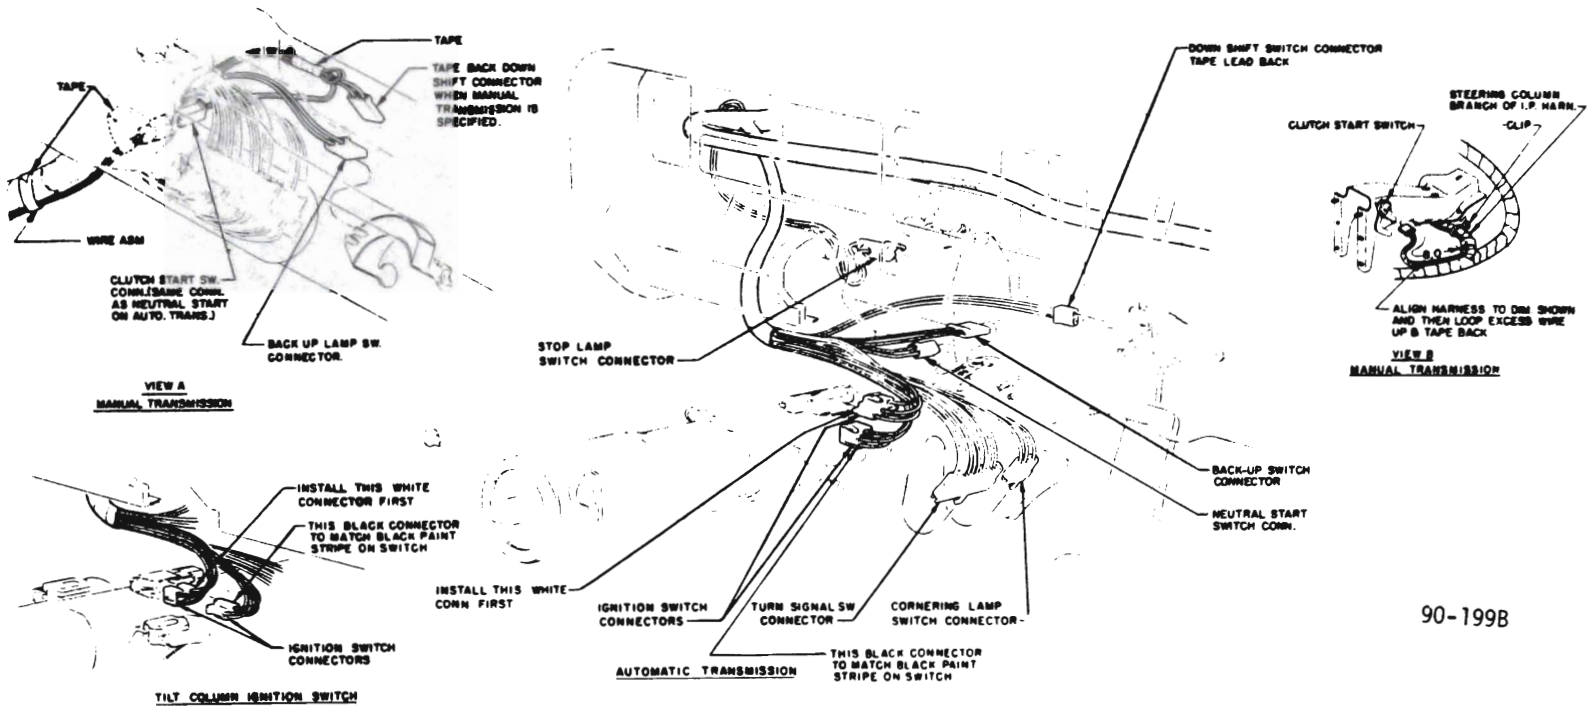

Figure 90-106 45-46-48000 Steering Column Electrical Connections
2. Connect all electrical connectors to steering column. See Figure 90-106 or 90-107.